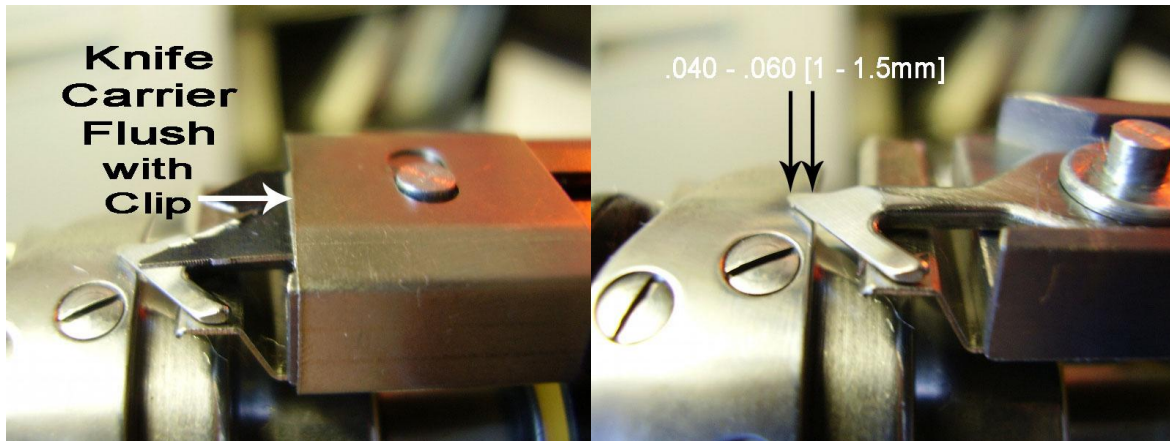

Figure 9: Knife and Selector Positioning
- c. Move to the front of the machine and make sure that the tip of both the Knife and the Selector are aligned as shown in Figure 9.